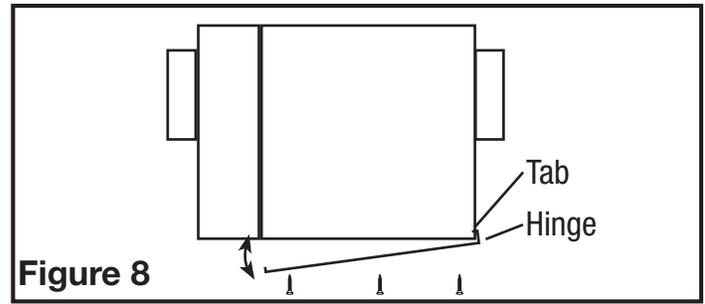

Figure 8
1. This unit includes a hinged access panel. This allows access to the interior of the fan once installed. To access the interior, unscrew the screws holding the panel in place (**Figure 8**).